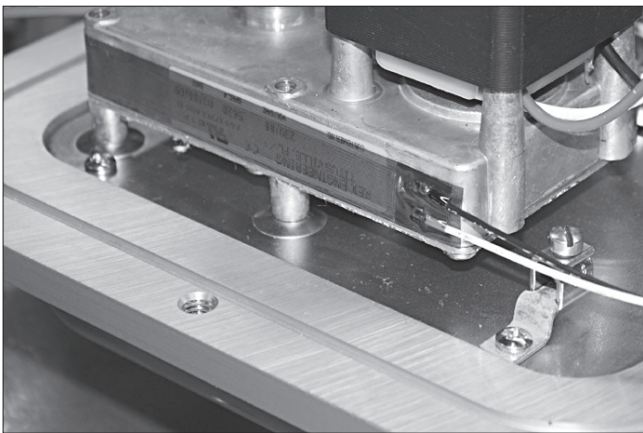

Figure 2.
5. Wrap the heater element as shown in figure 2.